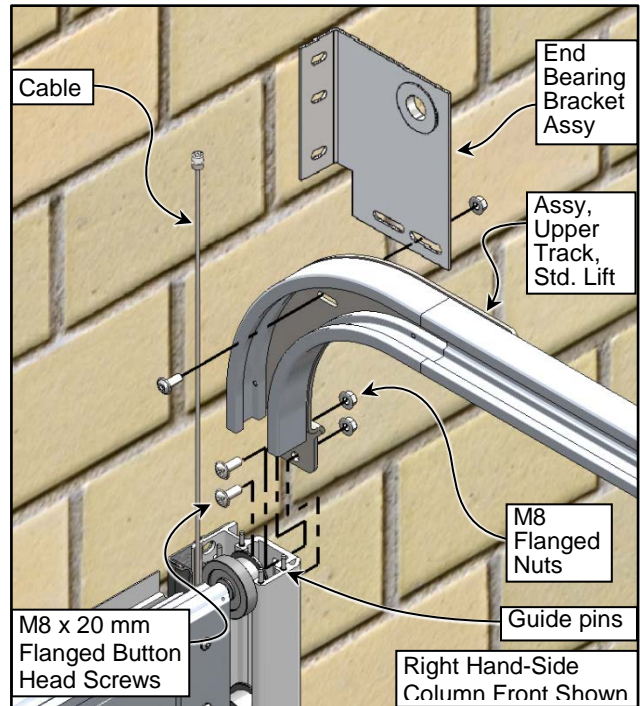
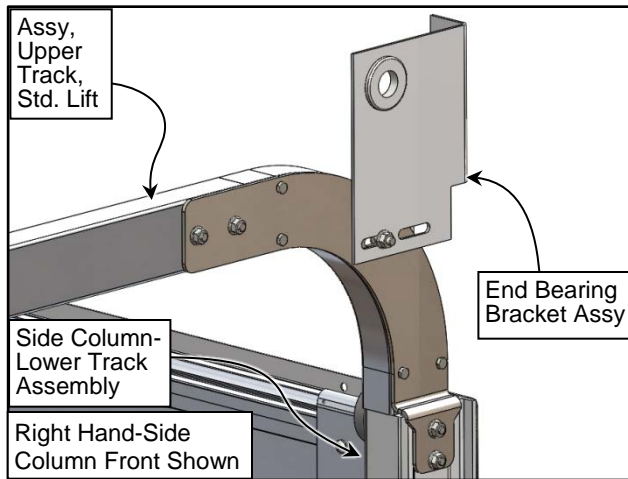

Figure 40
Figure 41
2. Confirm that guide pins are installed in the guide rails (tracks). (See Figure 40)
3. Identify, locate, and orient the Standard Lift Upper Track Horizontal Assembly for each side which includes the upper track transition bracket sub-assembly, 90° upper inner and outer transition tracks, horizontal track section, locating pins, and fasteners. (See Figure 40 & Figure 41)
4. Install on both lower track-side column assemblies as shown. The assembly must be aligned & fully inserted onto the locating pins of the lower track assembly. (See Figure 40 & Figure 41)
5. Adjust & fasten the track assembly to the End Bearing Brackets with the fasteners as shown. (See Figure 40)